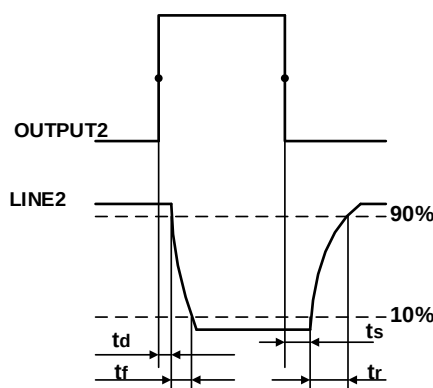

Figure 7-10 Parameter of Line2 output circuit
- Rising time delay = t_d+t_f : $<20\mu\text{s}$ ($0^{\circ}\text{C}\sim 45^{\circ}\text{C}$) (parameter description as shown in Figure 7-10)
- Falling time delay = t_s+t_r : $<20\mu\text{s}$ ($0^{\circ}\text{C}\sim 45^{\circ}\text{C}$) (parameter description as shown in Figure 7-10)